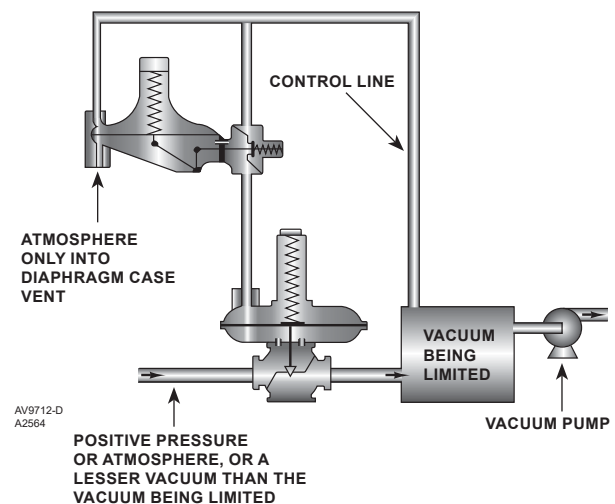

Figure 4. Type 66RR Relief Valve Installation in Vacuum Breaker System
- For a Type 66RR relief valve used in a relief application, connect an upstream control line to the 1/2 NPT connection on the pilot diaphragm case (key 4, Figure 8). For other typical applications, piping arrangements are shown in Figures 4 and 5. Regardless of Type 66RR installation, the pipe plug (key 78, not shown) will have to be removed from the vent of the Type T208RR pilot spring case (key 3, Figure 8).